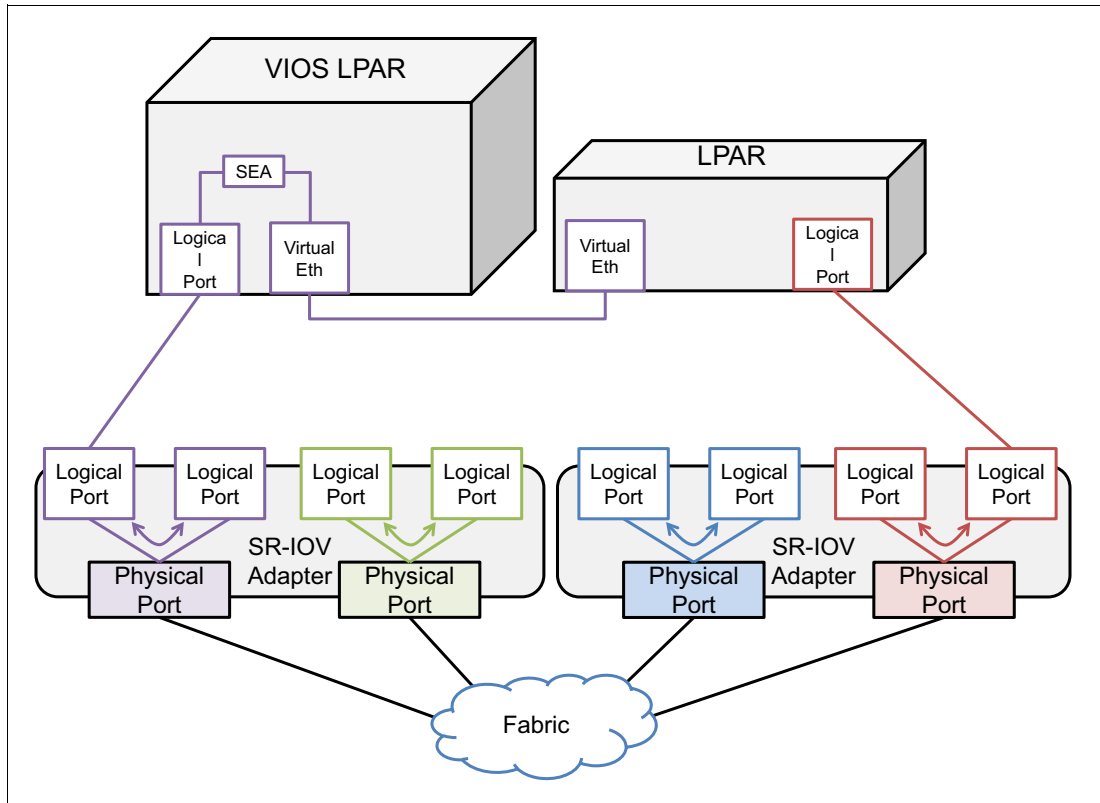

Figure 3-4 SR-IOV network interface backup
- ▶ On AIX: By using the Network Interface Backup feature (Figure 3-4 on page 15).